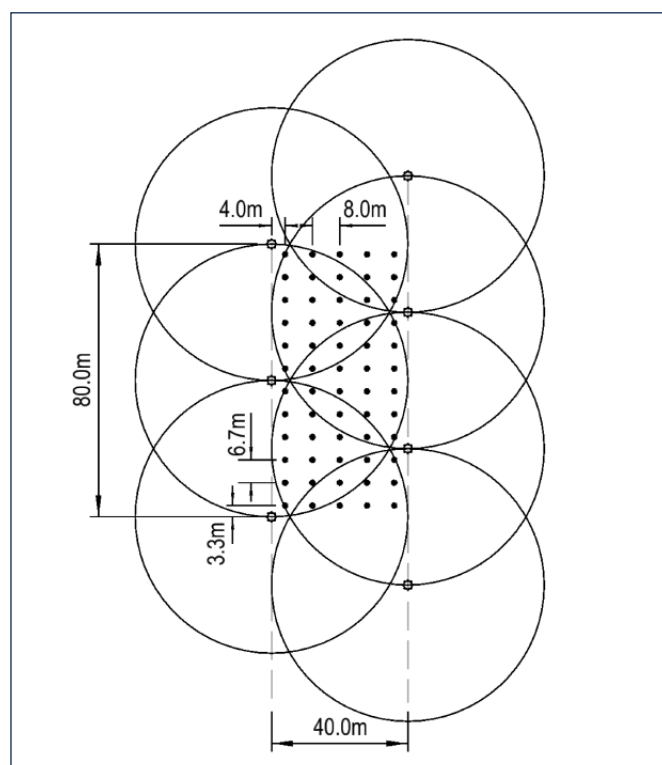

Figure 3.2. Collector spacing example.
3. Arrange a grid of collectors between six adjacent sprinklers (three in each of two rows) in a representative part of the system. The grid must fit within the six sprinklers (Figure 3.2)